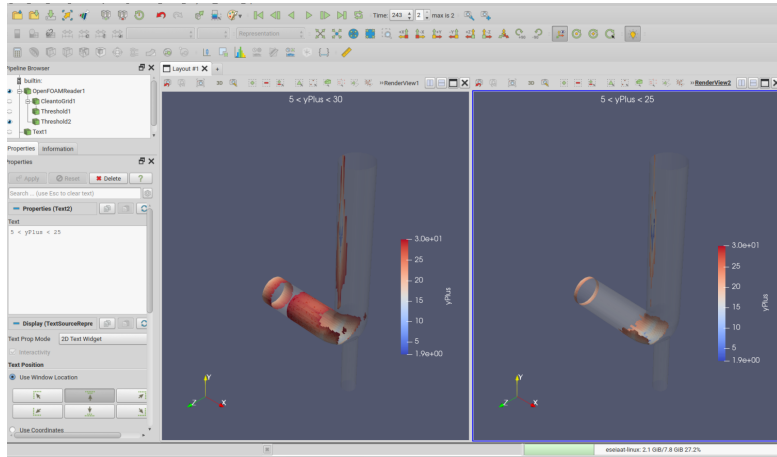

Figure 4: Distribution of y^+ with new mesh
- Write and Run the solver. Now the simulation converges much better. The values of y^+ are much larger, and the region where y^+ falls in the buffer zone is smaller. Figure 4 shows the threshold regions for $5 < y^+ < 30$ and $5 < y^+ < 25$